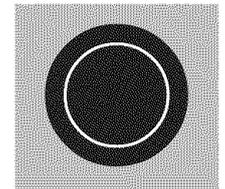

Figure 4
2. Push in and turn the control knob counterclockwise for smaller cookware (See Figure 3) or clockwise for larger cookware (See Figure 4).